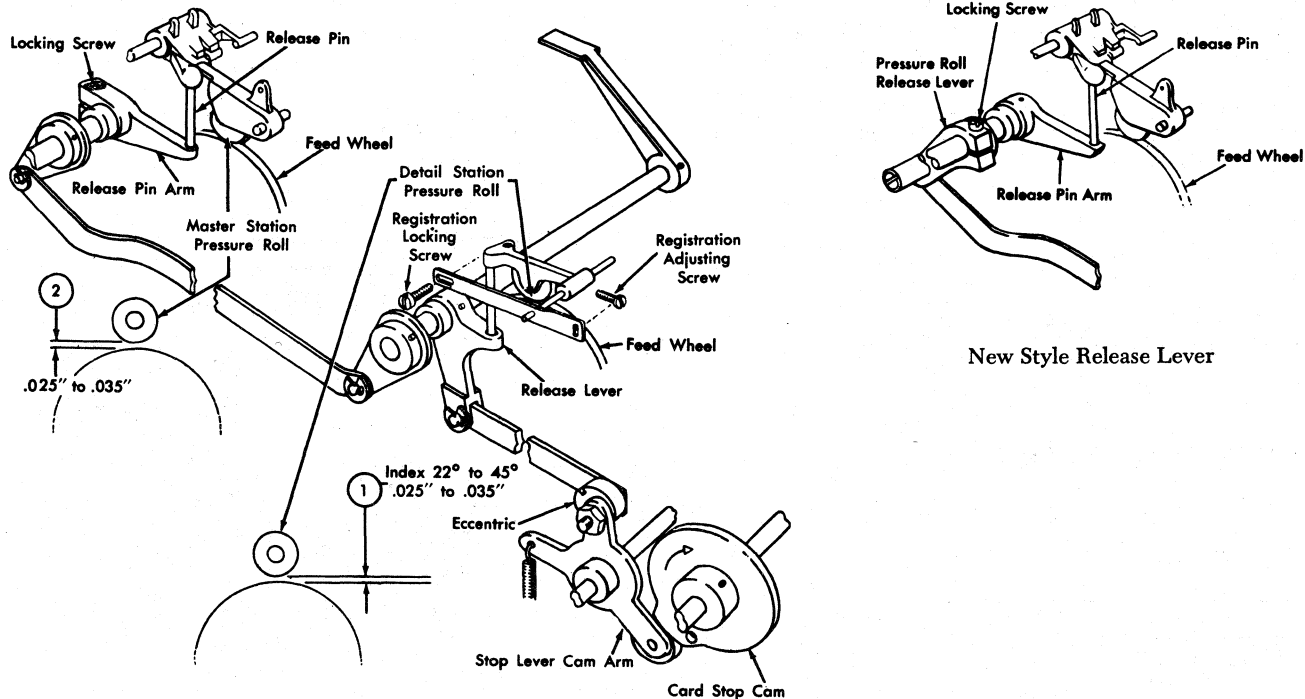

Figure 28. Pressure Roll Adjustment
ADJUSTMENT (FIGURE 28)
2. Loosen locking screw in release pin arm (pressure roll release lever on newer machines). See Figure 28.
1. Loosen registration locking screw (Figure 28).